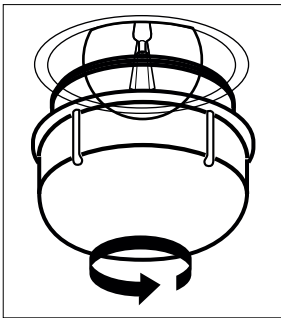

Figure 143
2. Remove the glass protection by turning it counterclockwise. (See Fig. 143) Using plastic gloves may help you if you have difficulty in rotating it.